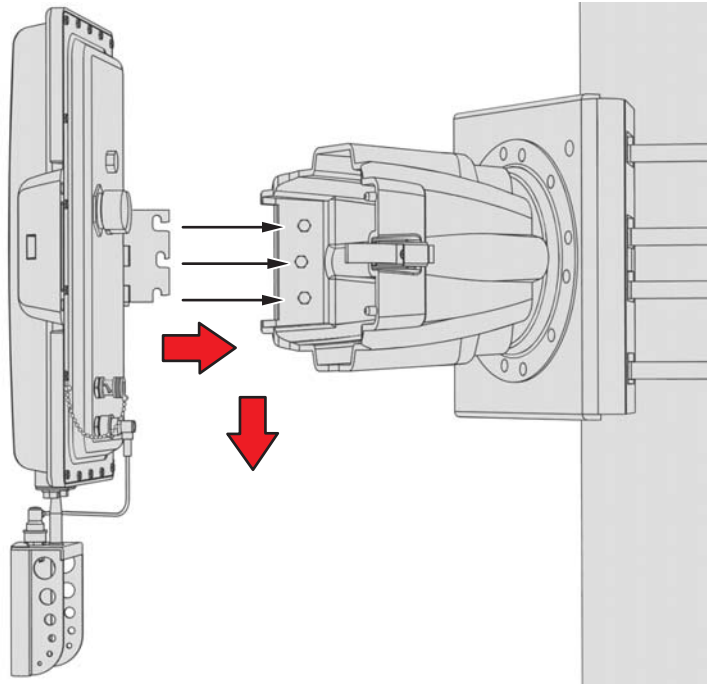

Figure 16. Attaching the EW5002 to the J-Box
7. Hang the hinge of the EW5002 onto the hinge bolts in the J-box (refer to Figure 16).